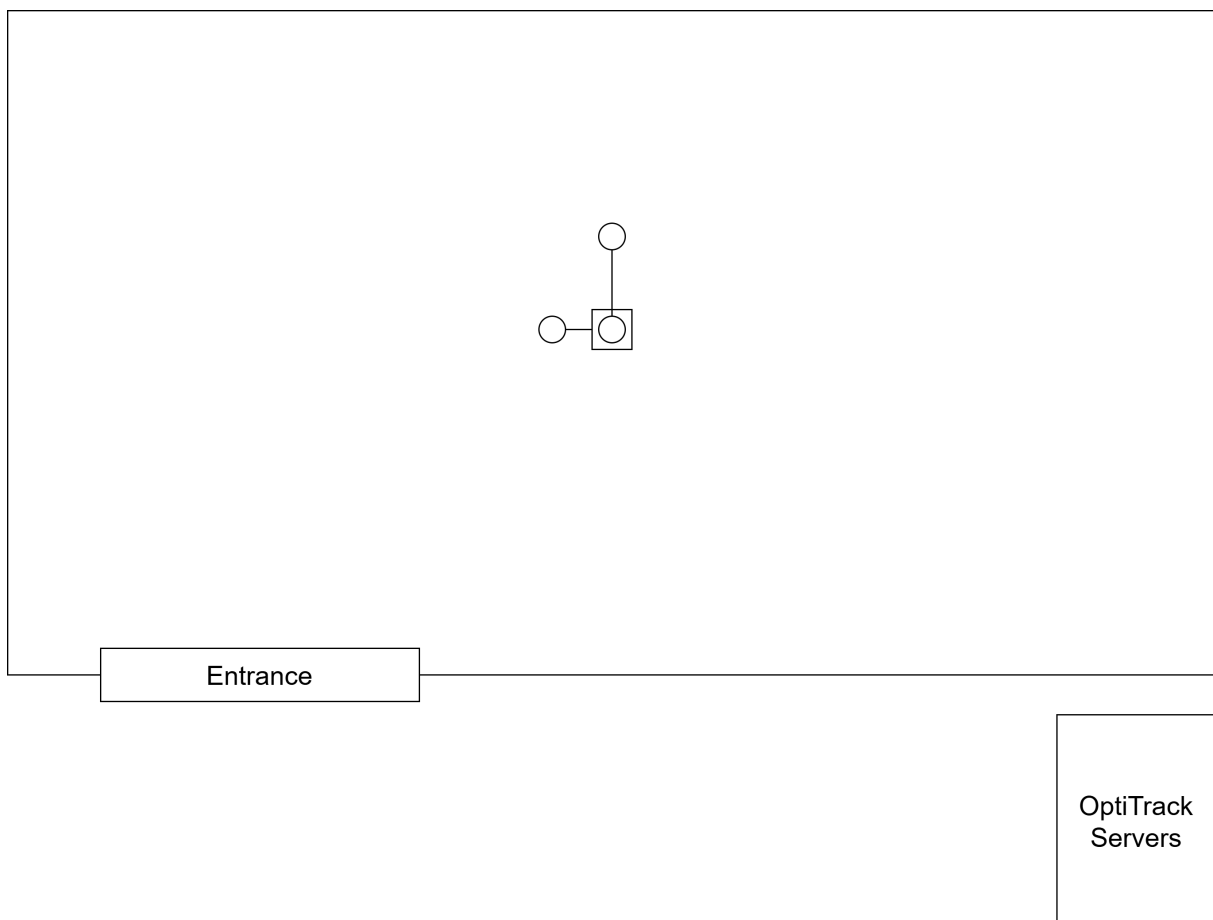

Figure 5. Ground Reference
- (b) If OptiTrack was turned off, any of the camera towers have been bumped, or you are otherwise unsure of calibration [recalibrate them \(https://youtu.be/HyrHhaRV0aM?t=136\)](https://youtu.be/HyrHhaRV0aM?t=136). Check that the calibration is at least labeled as "Good" in the calibration review window. Finally Place the ground plane with the corner on the piece of tape in the center of the tracking space as shown in Fig 5.